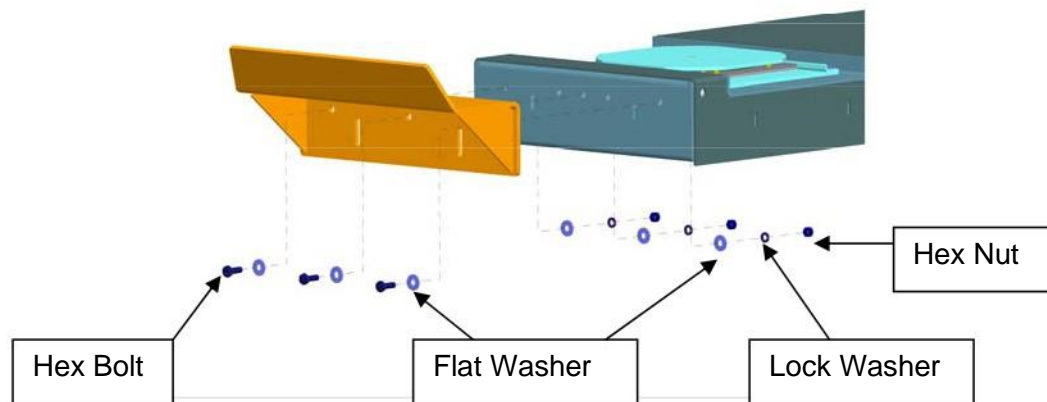

Figure 25 - Runway Stops Installation
1. Install the front runway stops located in the accessory box using the M12 hex bolts, washers, lock washers, and hex nuts located in the hardware kit. (See Figure 25)